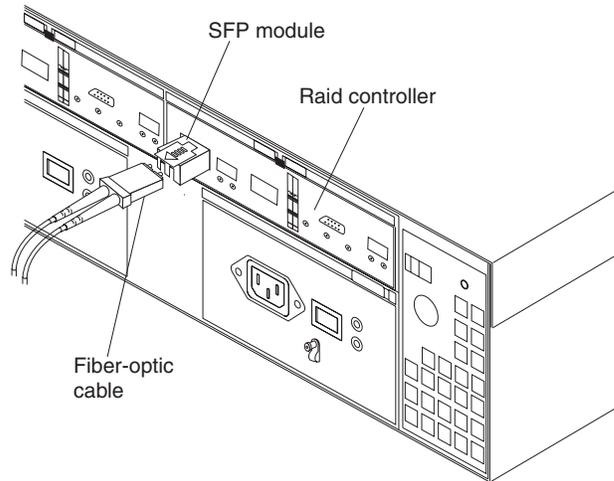

Figure 79. Location of SFPs and fiber-optic cables
6. From the first RAID controller to be upgraded, remove the fibre-channel cables from the SFPs. The location of these components is shown in Figure 79 on page 112.